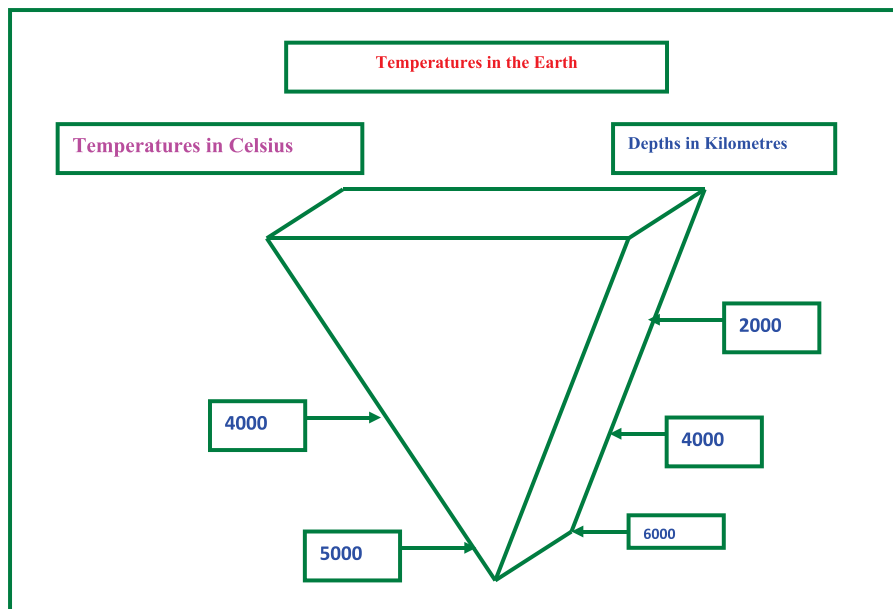

Figure 3: Earth energy budget...
Earth Energy (EE) heat pump is one of the most efficient means available to provide space heating/cooling for homes and offices (Figure 3). It transfers the heat located